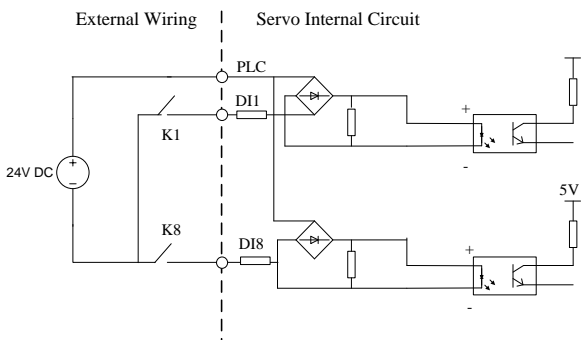

Fig. 2-2 Connection Mode Using an External Power Supply Switch Control
2) Connection mode using an external power supply, and adopting switch control is as shown in Fig. 2-2 (Note to remove the connecting wire between PLC and 24V terminal).